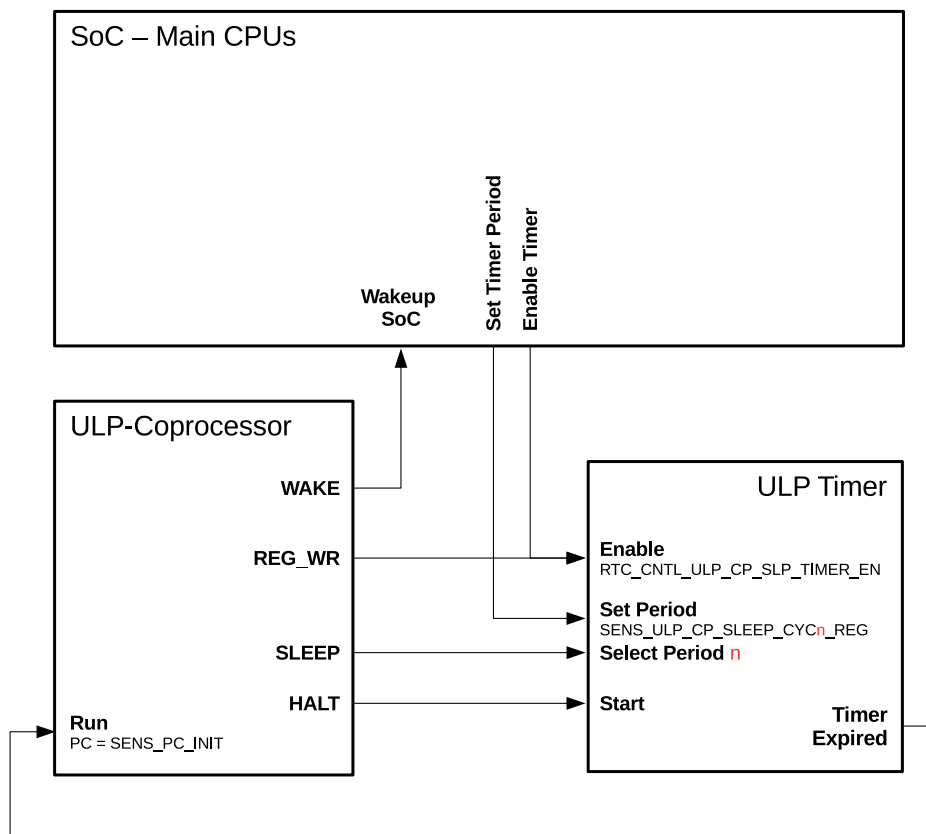

Figure 158: Control of ULP Program Execution
The ULP co-processor puts itself into sleep mode by executing the HALT instruction. This also triggers the ULP timer to start counting `RTC_SLOW_CLK` ticks which, by default, originate from an internal 150 kHz RC oscillator. Once the timer expires, the ULP co-processor is powered up and runs a program with the program counter (PC) which is stored in register `SENS_PC_INIT`. The relationship between the described signals and registers is shown in Figure 158.